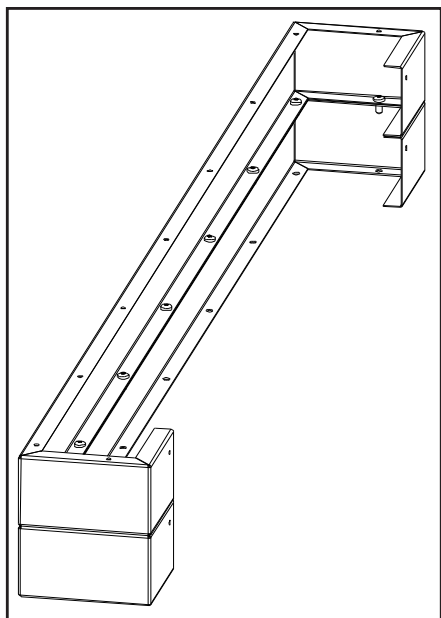

Figure 39a: Combining 2 Base Shelf Riser.
2. When using more than one riser each level must be attached using nine (9) #8 T-20 screws provided (see Figure 39a).